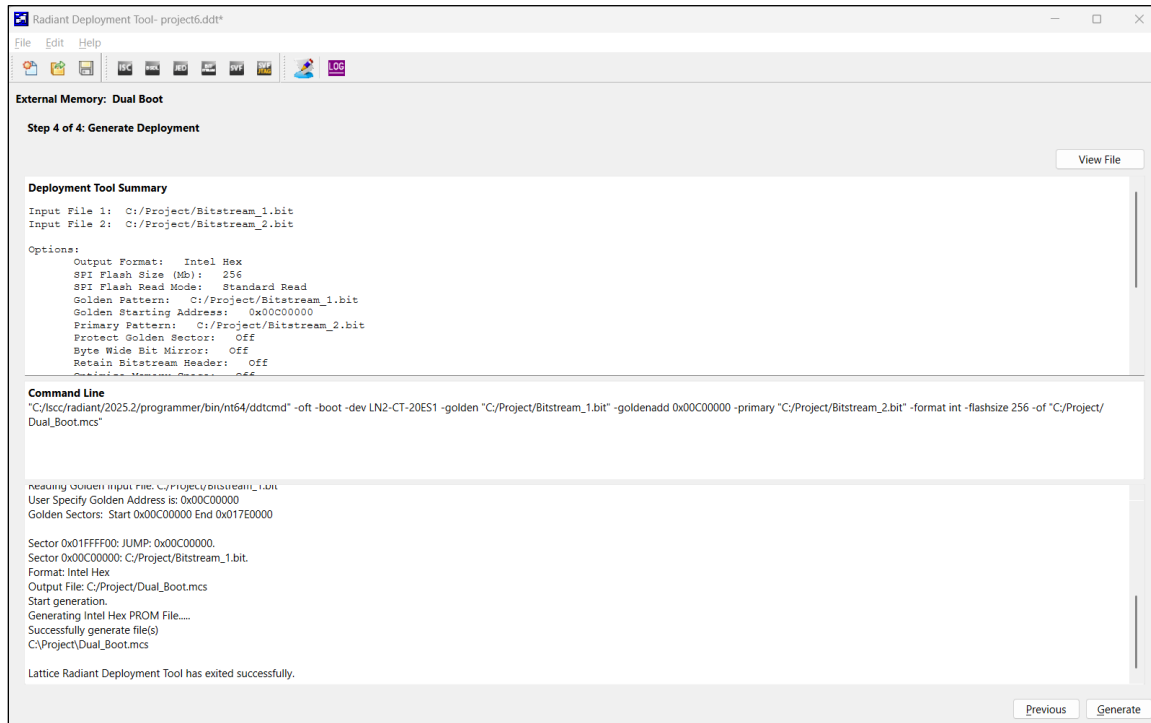

Figure 7.6. Generate Deployment Window
Step 4 of 4: Generate Deployment window (Figure 7.6)